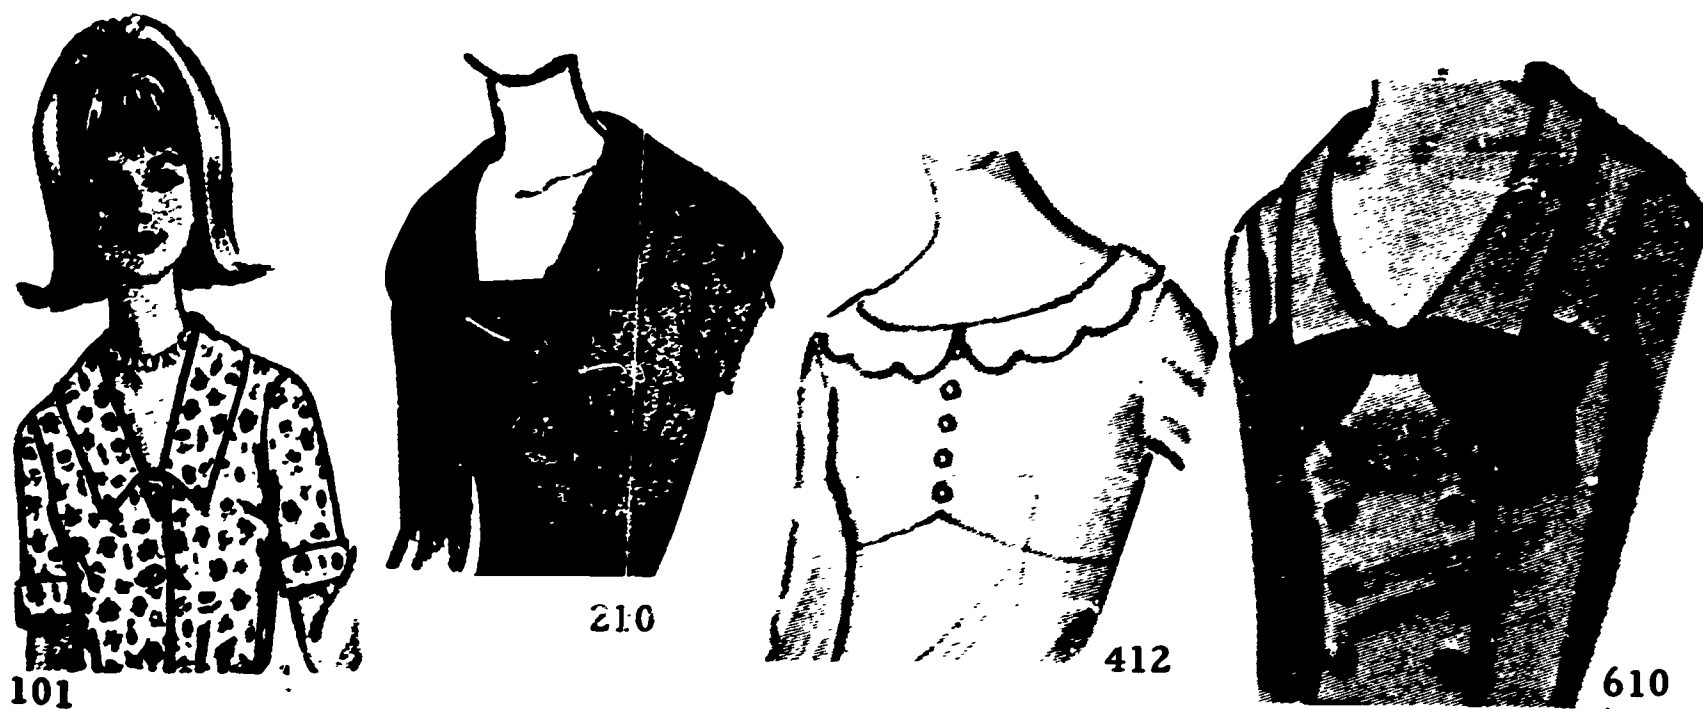

Fig. 196
- A. Develop three of the following front bodices along with the collars. (Fig. 196) (Value 20 points each; total 60 points)